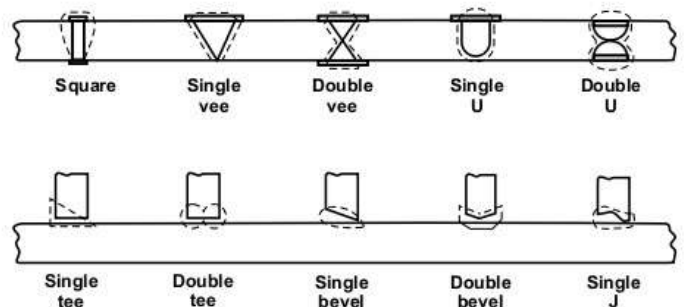

Fig. Q.22.2 Different types of butt (groove) welds
- Following are different types of butt (groove) welds, shown in Fig. Q.22.2,